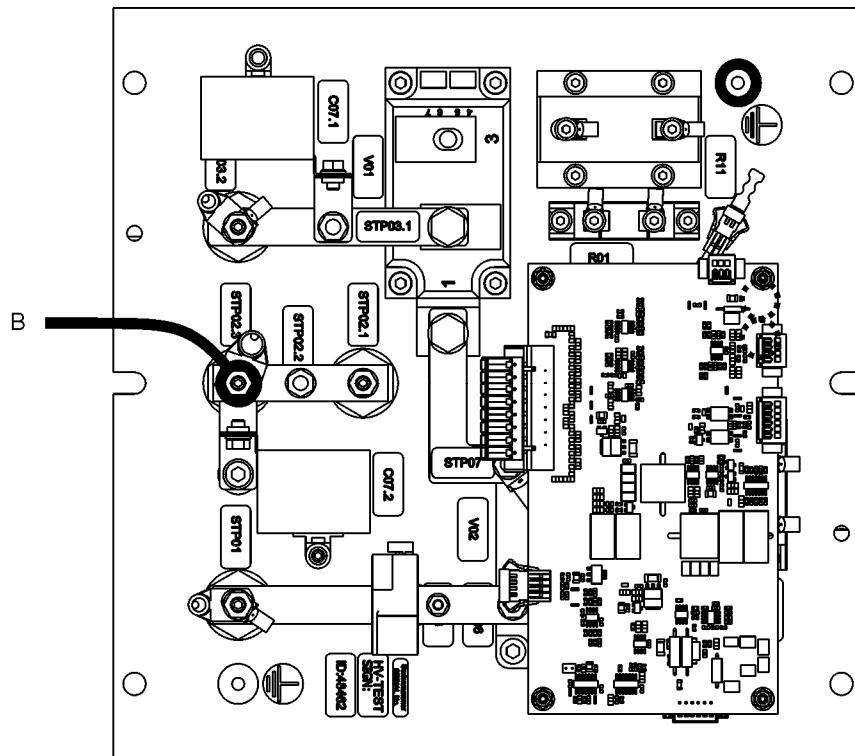

Figure 5-15: L107 Electrical Connections on A101
- b. Disconnect cable at STP02.3 on the A101 module (see Figure 5-15). Two cables lead in from the X101 Input Terminal and make a total of three turns through the L107 Choke before leading to their termination points. One cable terminates at STP02.3 (B) on the A101 module and is fastened with M6 nut, M6 Schnorr washer and M6 washer. Remove these fasteners and disconnect the choke from the A101 module.
- c. Connect cable at STP02.3 on the A101 module (see Figure 5-15). Two cables lead in from the X101 Input Terminal and make a total of three turns through the L107 Choke before leading to their termination points. One cable terminates at STP02.3 (B) on the A101 module and is fastened with M6 nut, M6 Schnorr washer and M6 washer. Connect the cable and affix these fasteners to the A101 module.